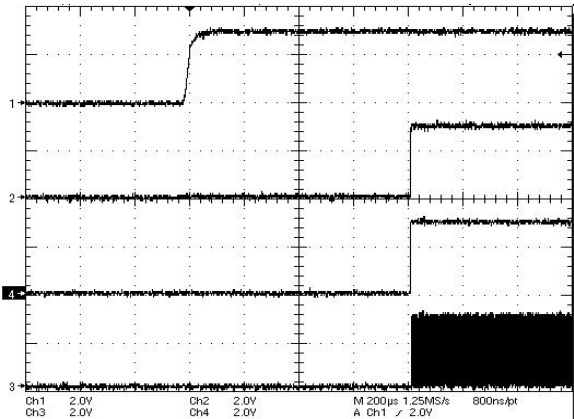

Figure 7. Activation Sequence, Ch1 : CRD_VCC,
3.0 V). Figure 7 shows the typical NCN4557 activation sequence.